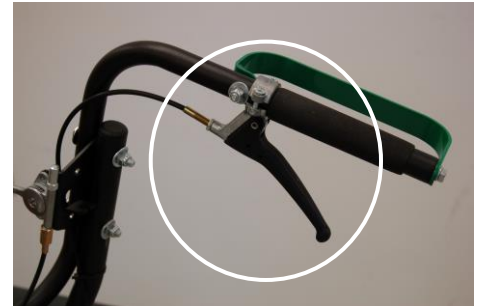

Fig. 6 Right Handle
3. Pull Up on the drive lever (See Fig. 6) to engage the transaxle in the desired direction.
1. Release drive lever (Fig. 6) to disengage transaxle.